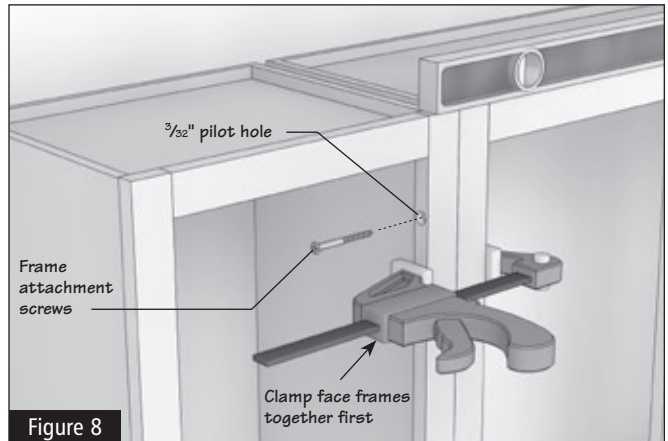

Figure 8
2.5 In order to attach two cabinets together, you will need to clamp them together first. Then, drill a $\frac{3}{32}$ " pilot hole in three places along the hinge side of the frame. Finally, drive in the #8 x $2\frac{1}{2}$ " frame attachment (trim head) screws to join the two cabinets. (Figure 8)